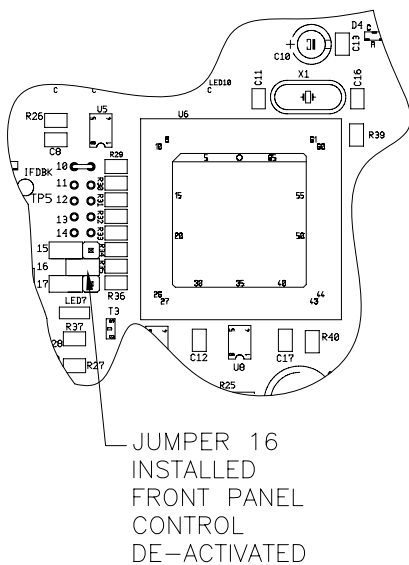

Figure 16: Jumper Location - Front Panel Lockout
3. Place the jumper across the two (2) pins at location 16 on the main PC board (see Figure 16).